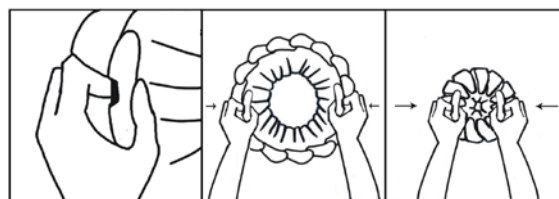

Figure 6. Release Wound Retraction Mechanism (if needed)
- Grasp the two handles on the upper retraction ring, such that the thumbs are on the flat part of the handle and the index fingers are on the two blue buttons. (Figure 6)